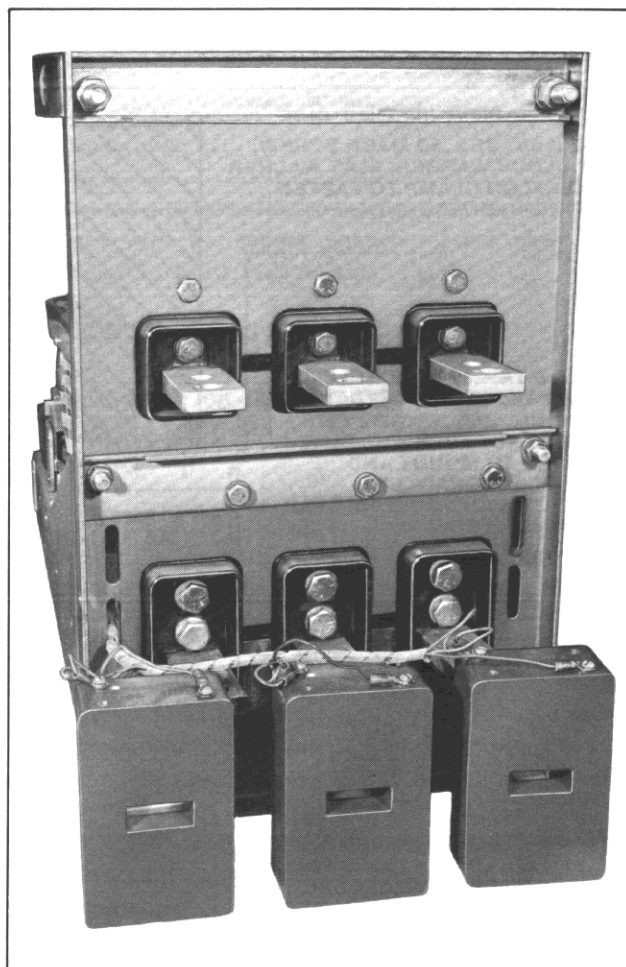

Fig. 20 *Attaching Wiring Harness to Sensors DB-25 and DB-50*
7. Remove the finger clusters from the lower studs, wire the harness leads to the sensors. Attaching the wires can be accomplished easily by having the terminals of the sensor facing upwards. Once the leads are secured the sensors can be flipped 180° and placed on the lower studs, (Fig. 20), now reinstall the finger clusters. Secure the wiring harness to the right hand amptector mounting bracket using nylon clamp and .164 hardware.